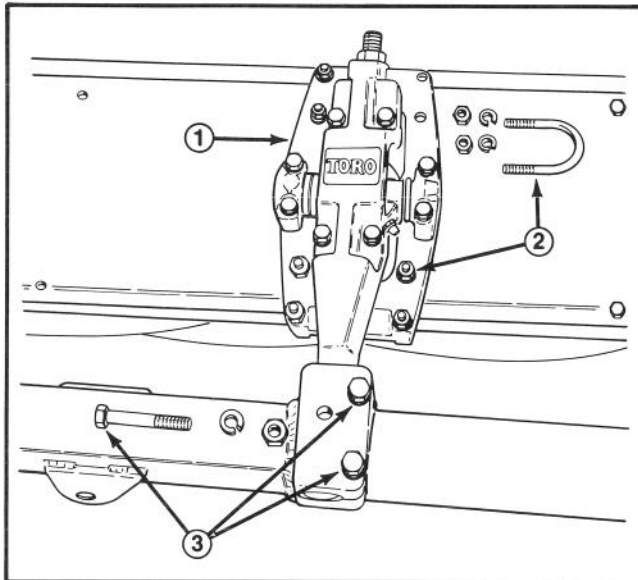

Figure 6
Mount Floatation Kit Assemblies (Fig. 6) to all five cutting units using supplied "U" bolts. Male end of floatation assembly extends forward. Tighten U-bolts evenly.
A. Remove 3 (metric) bolts from each of the five lift arms (Fig. 6).
C. Roll the appropriate cutting unit forward and match the male end or pivot arm with the hole in the lift arm. (**Note:** It may be necessary to spread slotted block on lift arm slightly to slide pivot arm fully into hole.) Reinstall three lift arm bolts but do not tighten (Fig. 6).
- D. To assure good quality of cut and maximum overlap of cutting units move the #2, #3, #4 and #5 cutting units toward the center line of the machine by rotating the pivot arm. As each cutting unit is moved toward the center line of the machine tighten the floatation kit and lift arm fasteners to secure its position (Fig. 6).